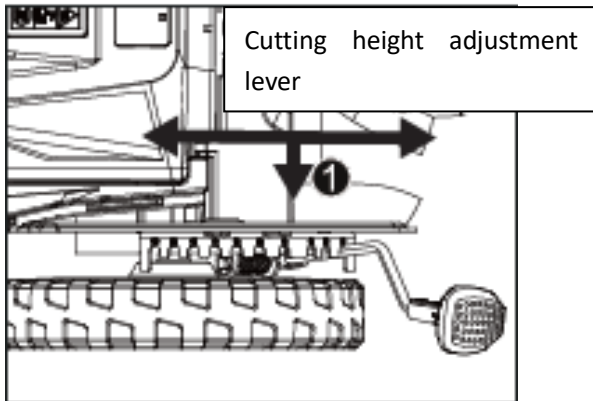

Fig. 7a
- Pull the cutting height adjustment lever out of its lock and move it forward or backward to set the desired cutting height (Fig. 7a).